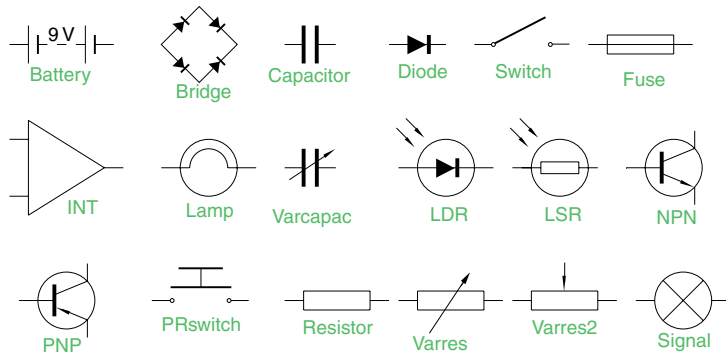

Fig. 9.17 Example using the **DesignCenter** – a set of electric/electronic symbols
1. Construct the set of electric/electronic circuit symbols shown in Fig. 9.17 and make a series of blocks from each of the symbols.
2. Construct drawings of the electric/electronics symbols in Fig. 9.17 (page 150) and save them as blocks in a drawing file **electronics.dwg**.